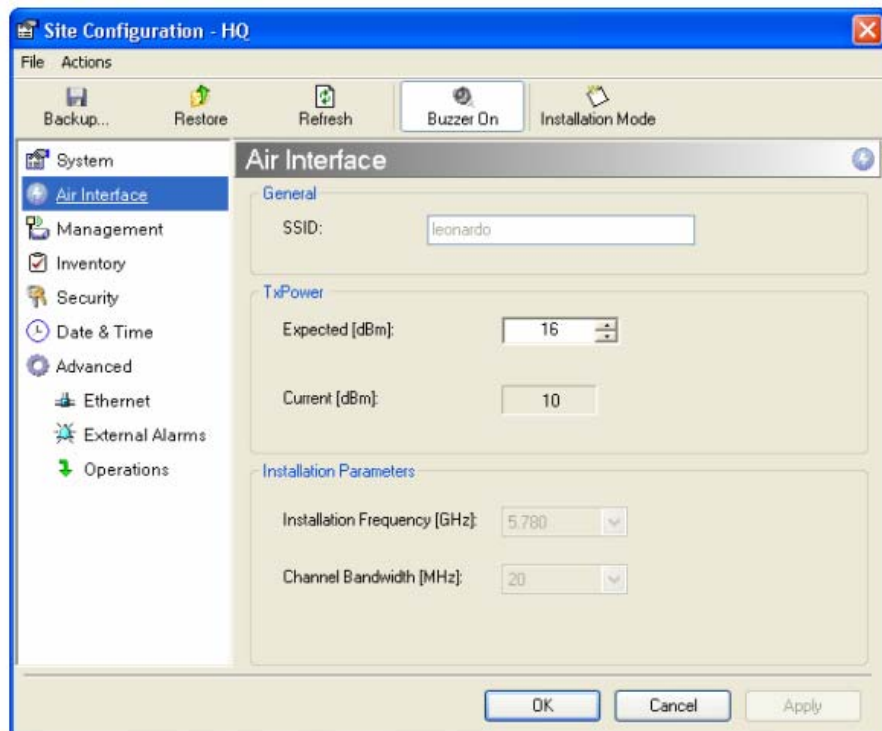

Figure 5-12: Changing the Transmit Power
3. Select Air Interface. (See *Figure 5-12*)